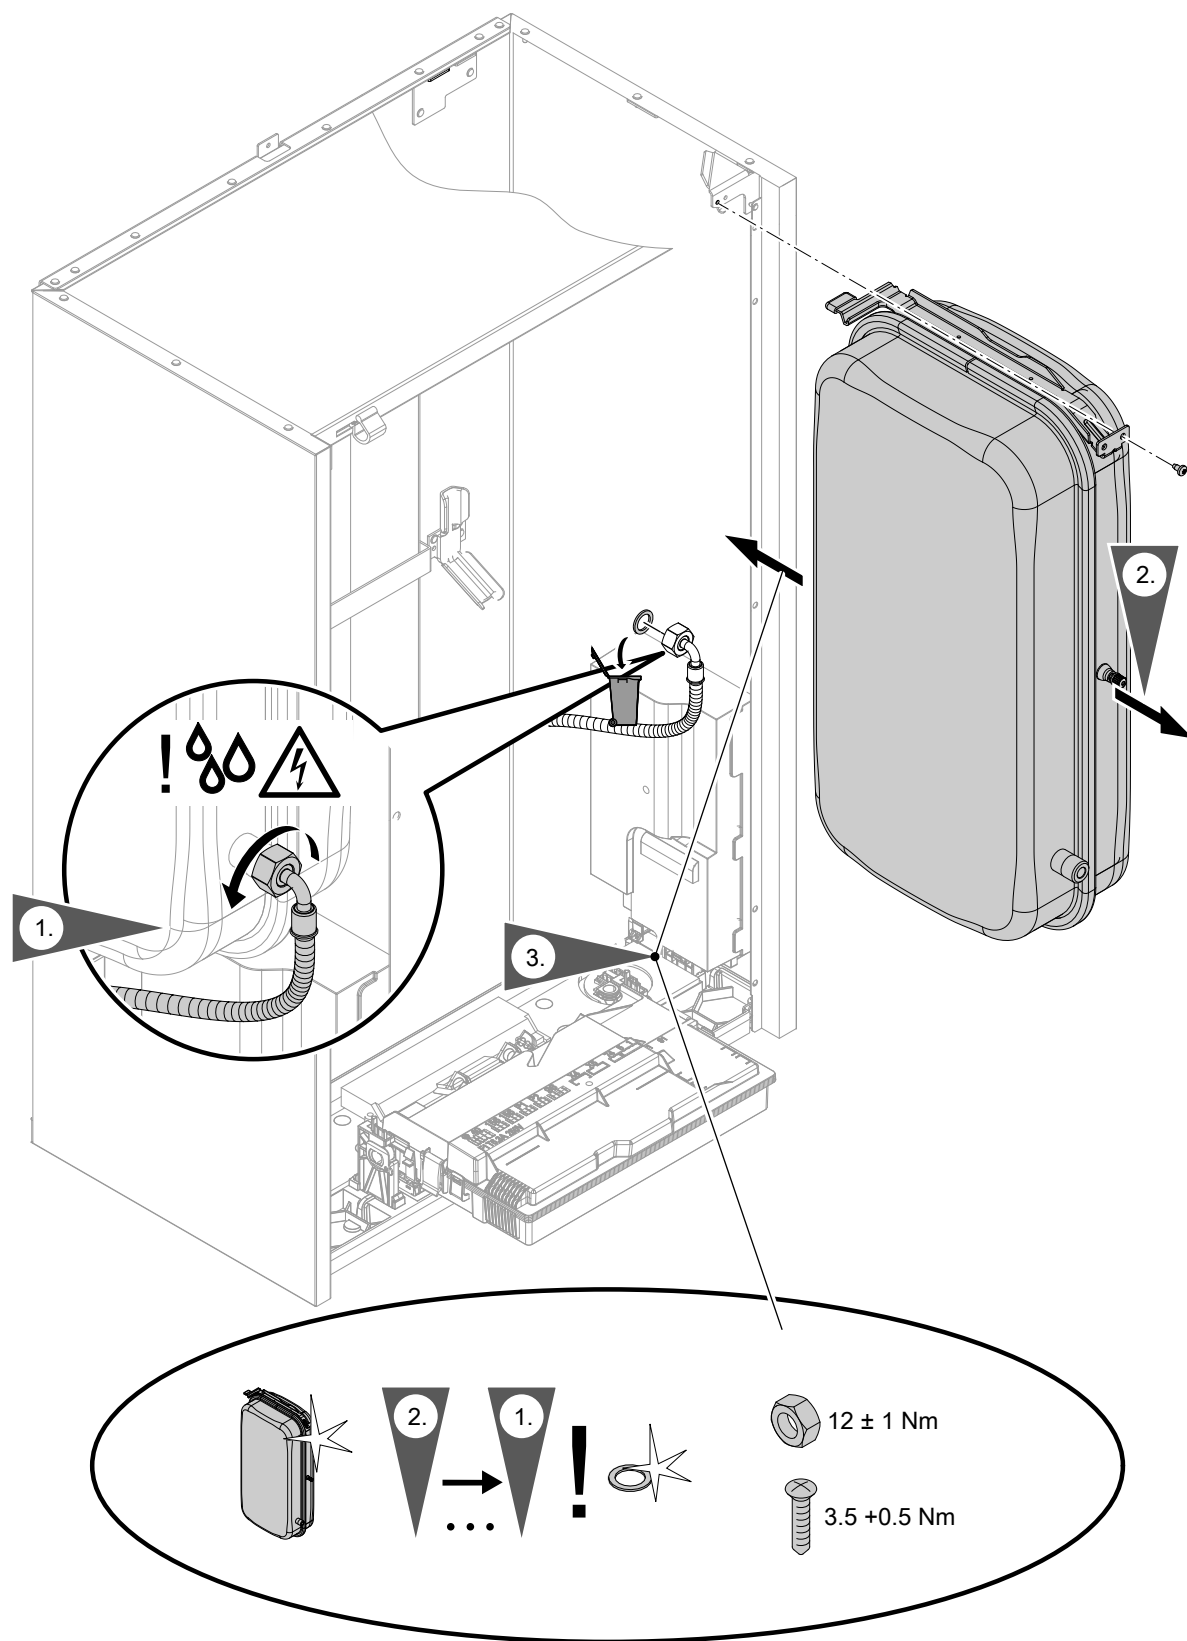

Fig. 90
- Expansion vessel: See Fig. 90 and if required Fig. 90.